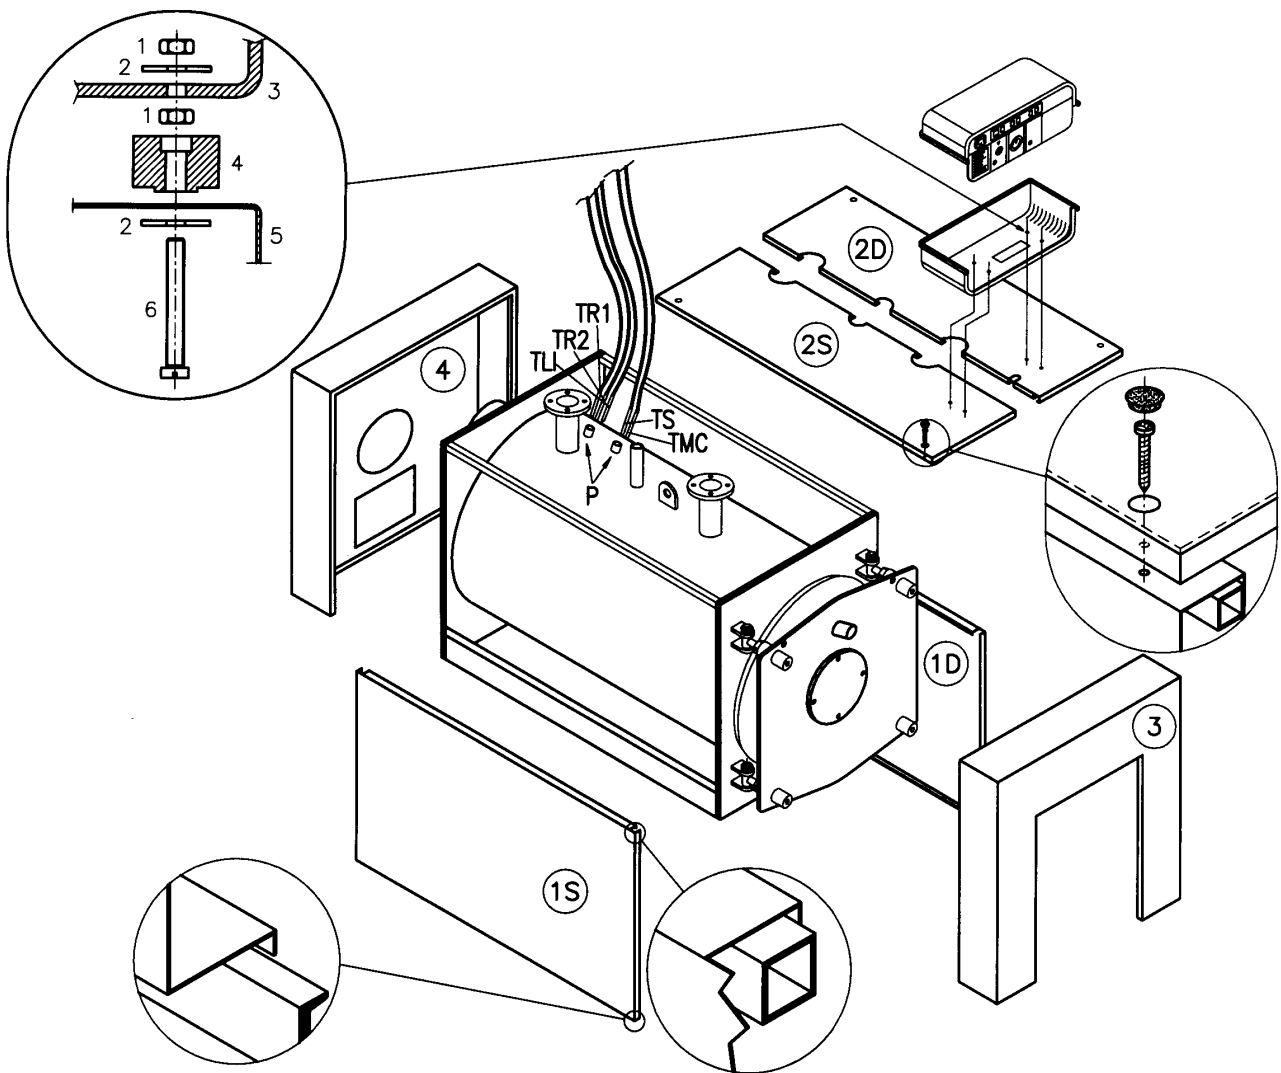

Fig. 8
4.1. DRN 93 - 407 BOILER CASINGS (Fig. 8)
- a) Wrap the rock wool around the boiler body leaving the bulb well (P) on the right side exposed.